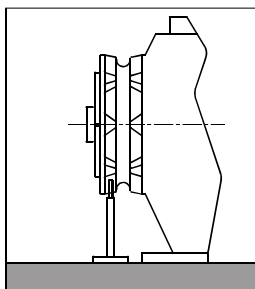

Fig. 1
2. In the case of horizontal shaft anchor windlasses (see Fig. 1), drill the hole in the outer circumference of the gypsy.